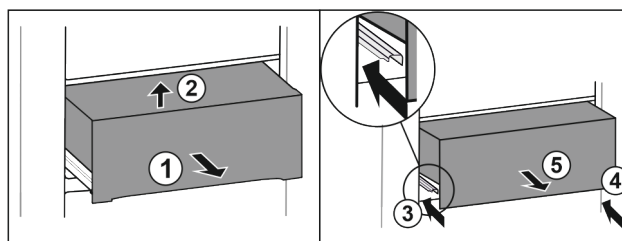

Fig. 38*
- ▶ Pull out the drawer half-way Fig. 38 (1).*
- ▶ Lift at the front Fig. 38 (2).*
- ▶ Insert left rail Fig. 38 (3).*
- ▶ Insert right rail Fig. 38 (4).*
- ▶ Take out the drawer to the front Fig. 38 (5).*